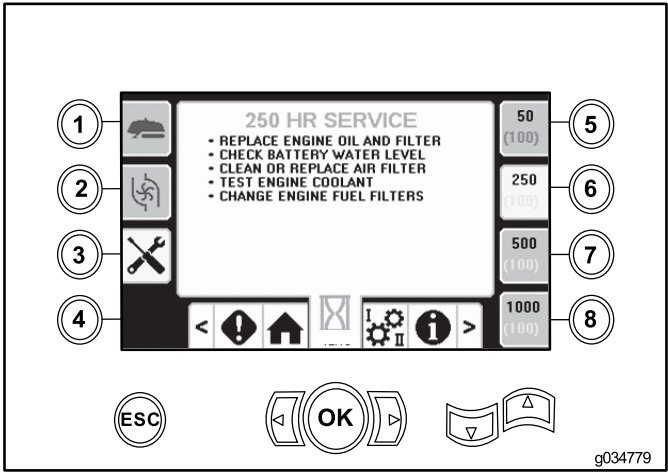

Figure 45
- Button 6—250-hour (Figure 45)